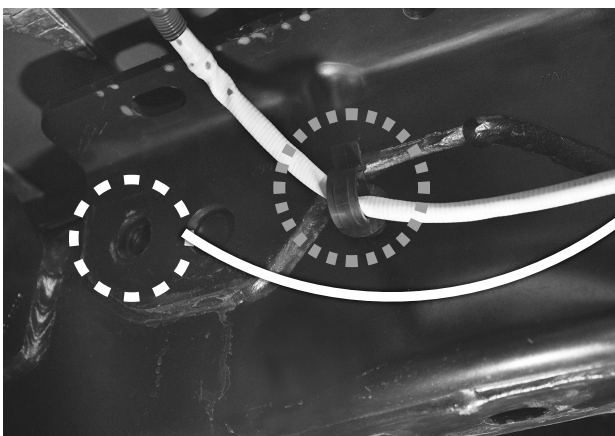

Fig. 31
- Locate the clip (gray circle) that holds the wiring harness for the O2 sensor. Discard the clip, as it will no longer be needed (Fig. 31).